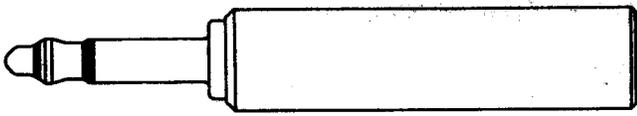

Fig. 4—304B Plug
2.03 **304B:** The 304B (Fig. 4) is a 3-conductor plug with an insulated body and a black shell. The 304B plug replaces the 304A plug, and is used with the M3AL cord for making connection to electron tube filament circuits in testing toll systems. The plug is used with the 242- or similar-type jacks.